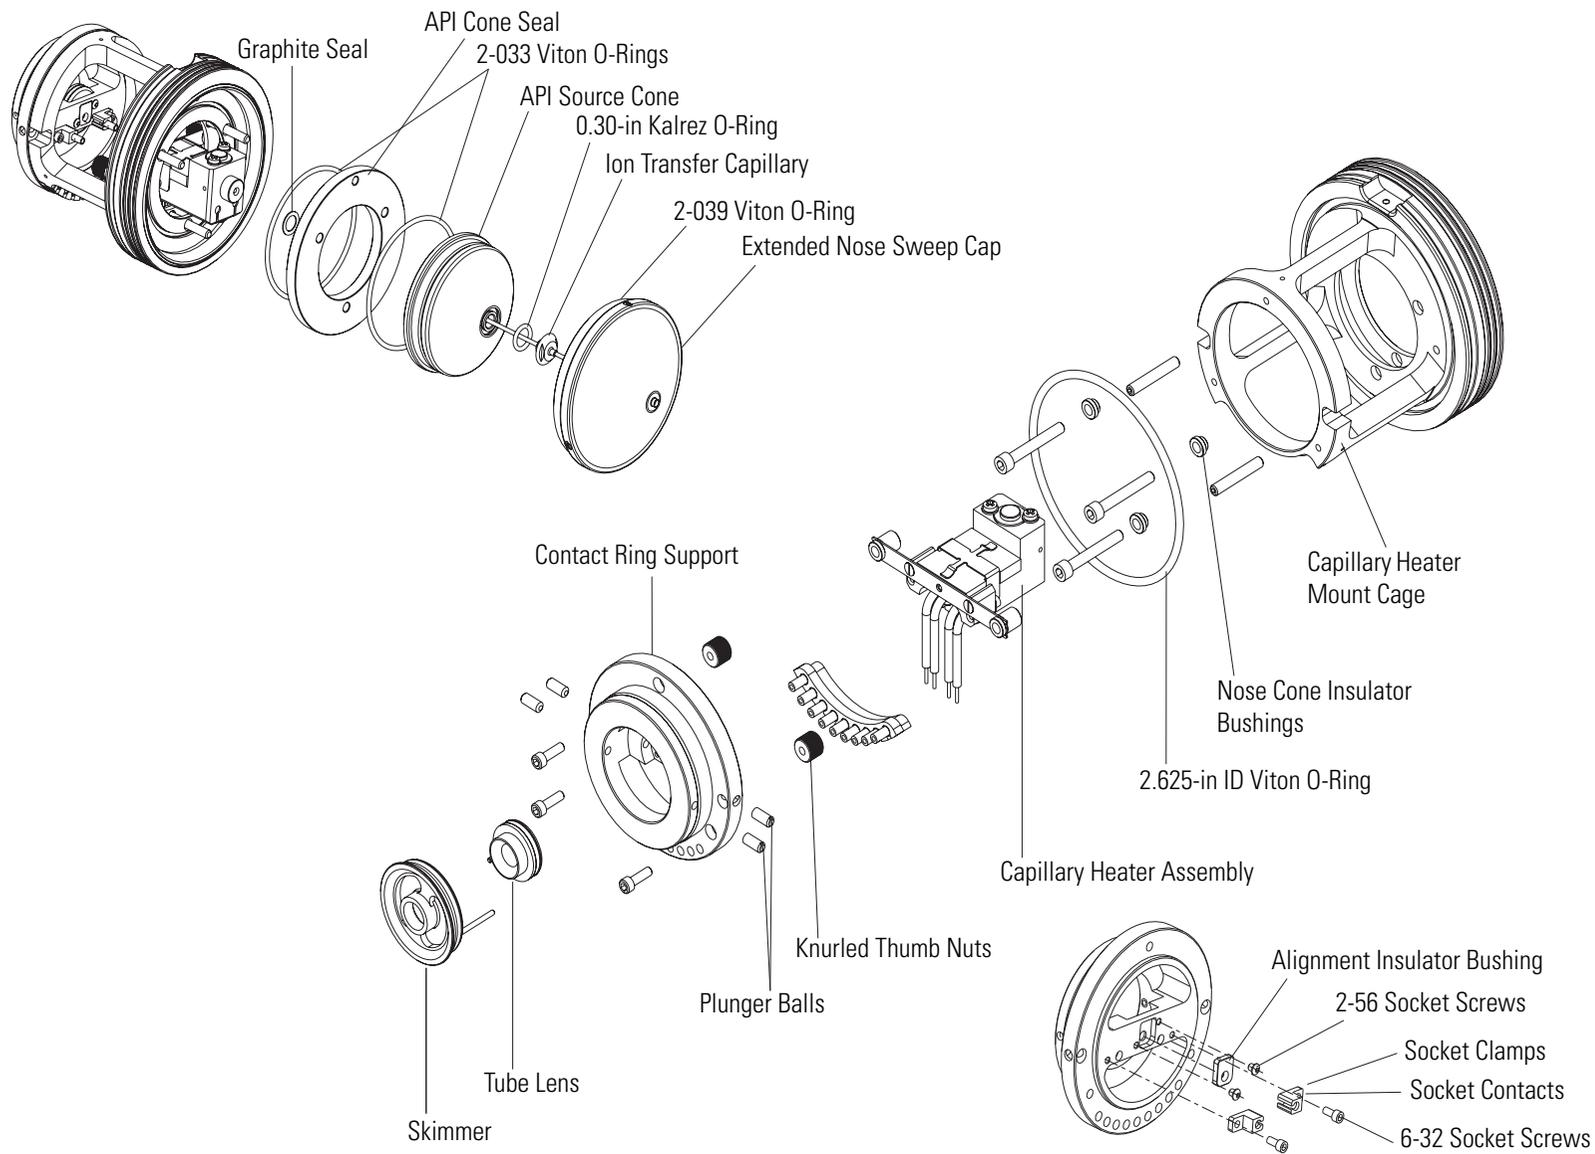

Figure 3-14. Exploded view of ion source interface assembly
1. Reaching behind the skimmer with your fingers, gently press the skimmer out of the contact ring support. If necessary, loosen the set screws. See Figure 3-14 on page 3-25.
1. Remove the ion transfer capillary by turning it counterclockwise until you can pull it free from the API source cone. See Figure 3-14 on page 3-25.
- a. Orient the tube lens such that the lead pin points toward the socket on the tube lens connection wire in the contact ring support. See Figure 3-14 on page 3-25.